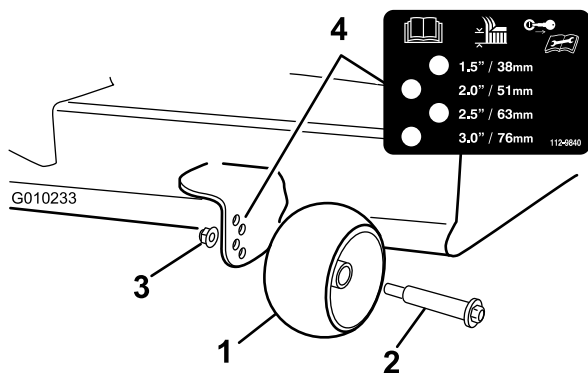

Figure 23
3. Adjust the anti-scalp rollers as shown in Figure 23 to match the closest height-of-cut position.